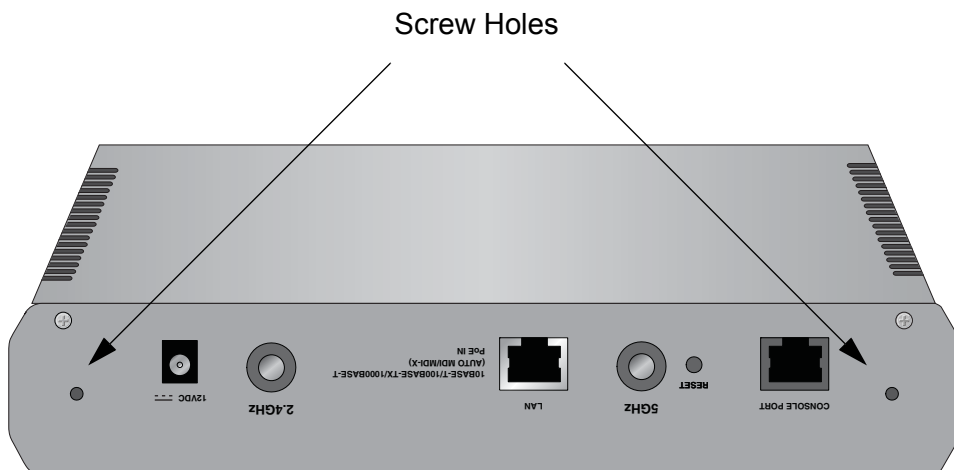

Figure 19. Screws Holes for Securing the Top Panel to the Access Point
2. Locate the two screw holes on the rear panel. The holes are used to secure the top panel to the access point. Refer to Figure 19.